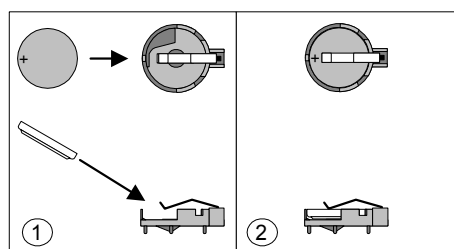

Figure 28: Removing the Battery
5. Figure 1 shows the battery location. Gently pry the battery free from its socket, taking care to note the "+" and "-" orientation of the battery (Figure 28).